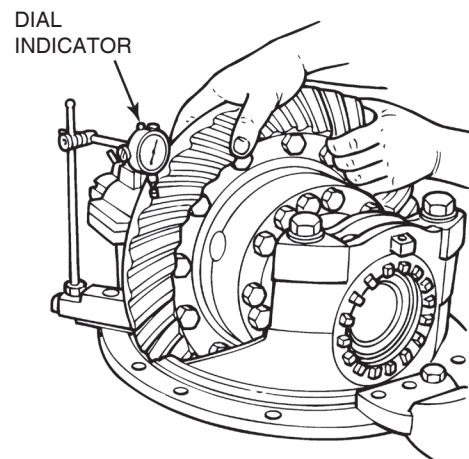

Figure 3.17
2. Install a dial indicator onto the flange of the differential. Place the tip of the indicator against the drive side of a ring gear tooth. Adjust the dial indicator to ZERO. Figure 3.17.